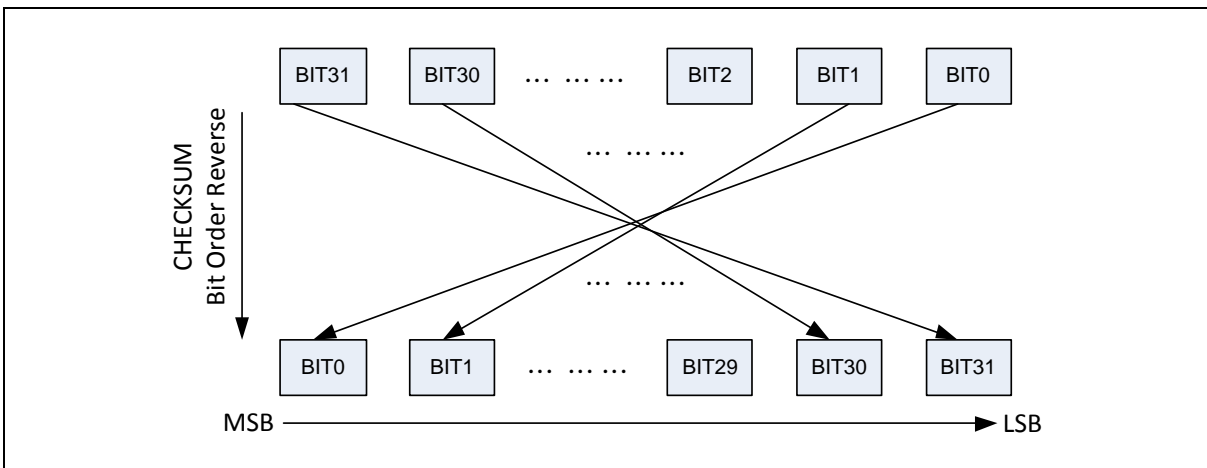

Figure 6.34-2 CHECKSUM Bit Order Reverse Functional Block
- 2) Configure bit order reverse for CRC checksum by setting CHKSREV (CRC\_CTL[25] Checksum Bit Order Reverse). The functional block is also shown in Figure 6.34-2 CHECKSUM Bit Order Reverse Functional Block